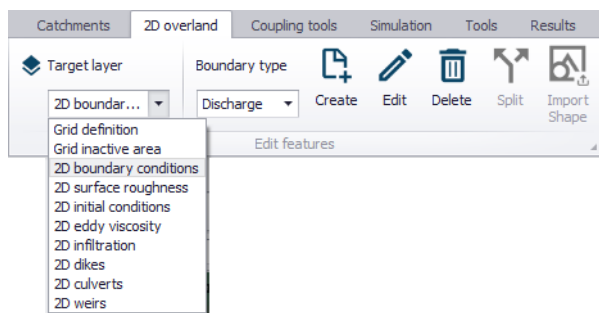

Figure 3.11 The Edit Features toolbox on the 2D Overland menu ribbon
Define arcs and polygons on the Map using the Flooding Layer Editing toolbar (Figure 3.10) or the Edit Features toolbox on the 2D Overland menu ribbon (Figure 3.11). Select 'Mesh arc' as the target layer from the toolbar and use the 'Create' tool to draw arcs on the map.
- **Polygons:** Define inactive polygons on the Map using the Flooding Layer Editing toolbar (Figure 3.10) or the Edit Features toolbox on the 2D Overland menu ribbon (Figure 3.11). Select 'Grid inactive area' as the target layer from the toolbar and use the 'Create' tool to draw polygon features on the map.